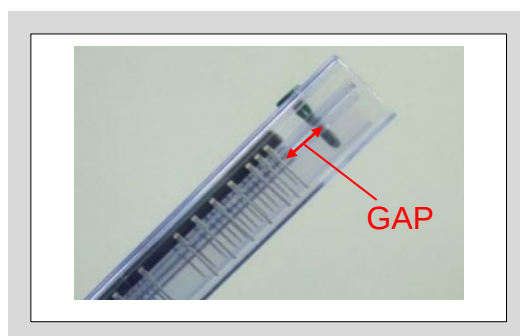

Fig. 2-1 Gap between the pin and the product
A) Make a gap between the pin and the product. (See Fig. 2-1)